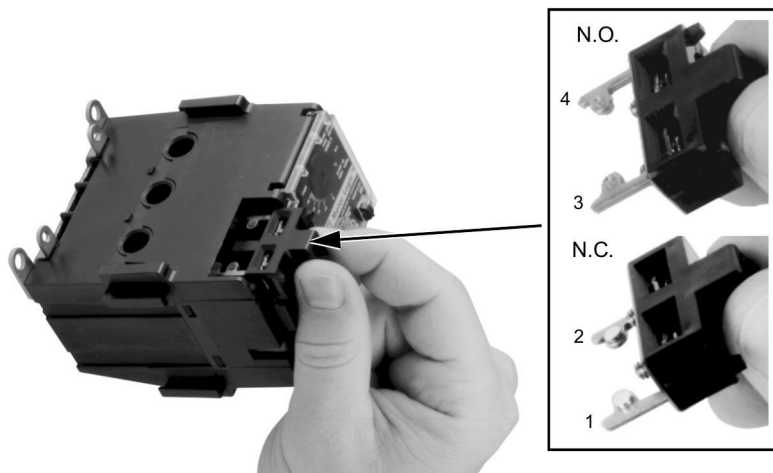

Figure 1: Installing the Auxiliary Contact
4. To install the contact (see Figure 1):